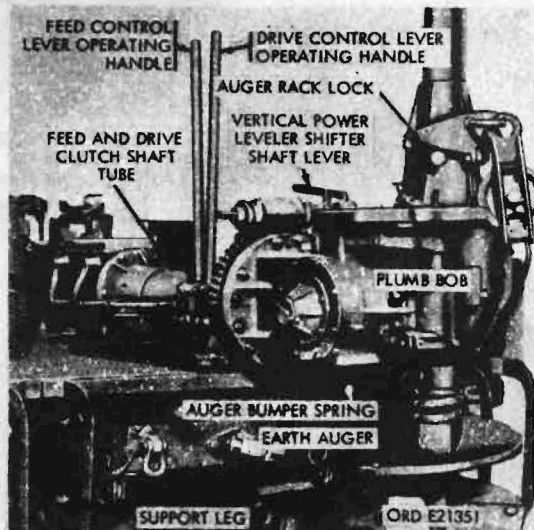

Figure 97. Earth boring machine controls
(5) Vertical power leveler shifter shaft lever (fig. 97). This lever, located on
(3) Earth boring machine control lever operating handles (fig. 97). The earth boring machine feed and drive control lever operating handles, located on the left side of the feed and drive clutch shaft tube, control the action of the clutch and brake assemblies.
(4) Auger rack lock (fig. 97). The auger rack lock, located in the derrick tube base, secures the auger rack from vertical movement when the earth boring machine is not operating.